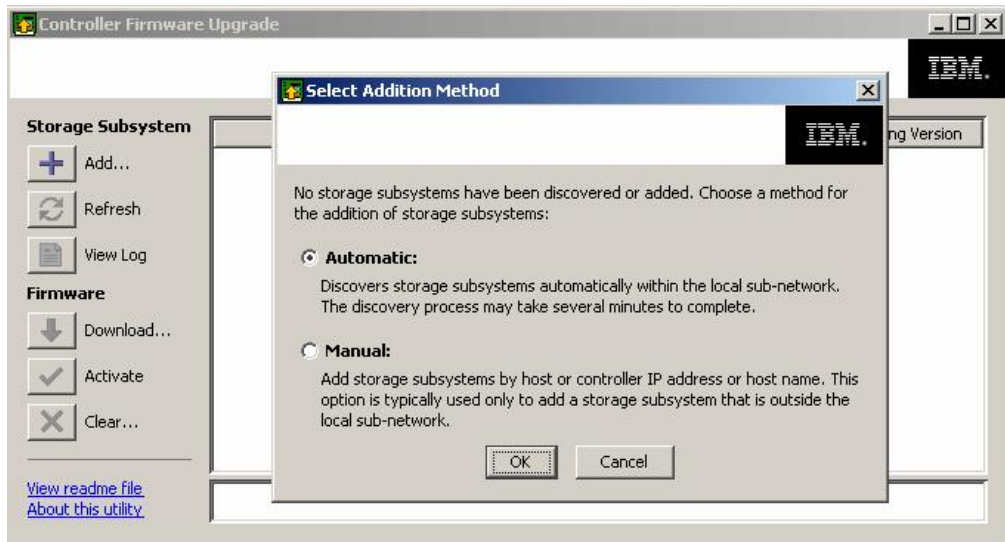

Figure 39. Firmware upgrade utility
2. To start the upgrade utility program, select **Start > Programs > Storage Manager 10 Firmware Upgrade > Storage Manager 10 Firmware Upgrade**. A dialog similar to the one shown in Figure 39 on page 54 is displayed.
3. If the Select Addition Method dialog is not automatically displayed as shown in Figure 39, click **Add...**